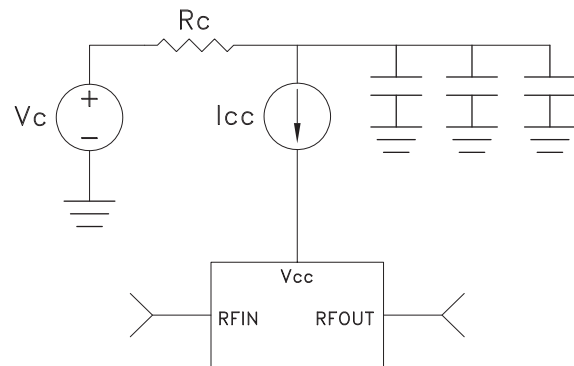

Figure 1 - HBT Self Biased Amplifier
1. There are two types of HBT amplifiers, self biased, and self biased with current control. Figure 1 shows the HBT self biased amplifier which is the simplest to bias. These amplifiers only require that the collector voltage be turned on. There is a bias resistor which sets the current. The amplifier has a current mirror which controls the base voltage.